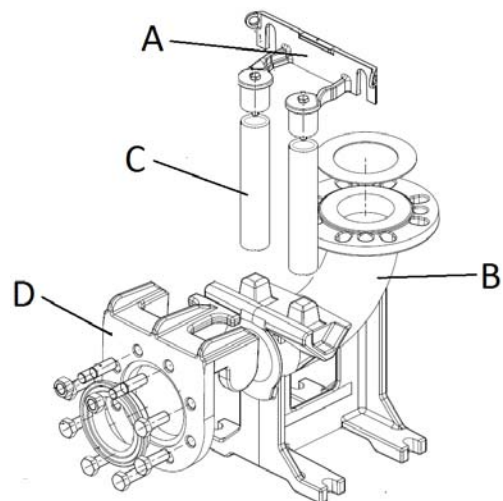

Fig. 5
- Fix the upper bracket for the guide pipes (fig. 5 – pos. A) to the edge of the pit.
- Locate at bottom of pit the foot pedestal for the automatic coupling (fig. 5 – pos. B) and check that the guide pipe conical fixations are perfectly perpendicular and leveled to the correspondent fixations of the upper bracket located to the edge of the pit.
- Mark the position of the slots in the support foot, then measure the exact length of the guiding pipes (fig. 5 - pos. C).
- Assemble the special skid-flange (fig. 5 – pos. D) on the delivery outlet of the pump and hook the rope or chain to the handle or slot located on the upper part of it.